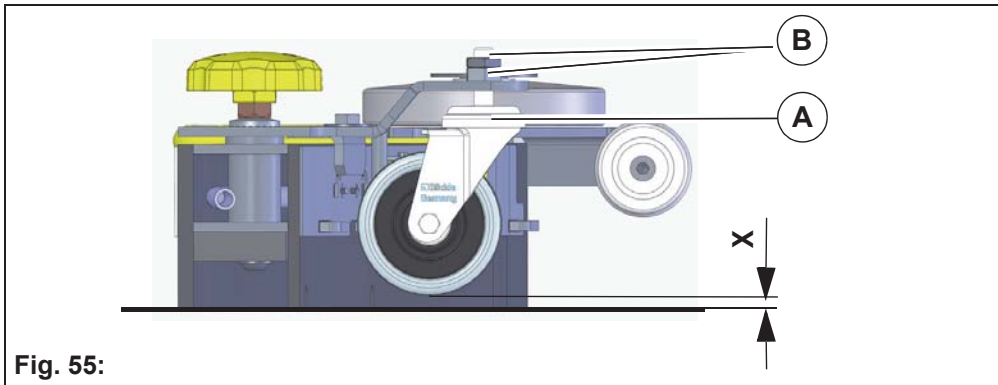

Fig. 55:
The height adjustment (X) of the supporting rollers **Fig. 55-A** has been set to 7 mm in the factory. If striping still occurs despite optimum inclination adjustment, readjust the distance between the supporting rollers and the lower edge of the sealing strip.
3. Loosen nuts **Fig. 55-B** and adjust distance between supporting roller and ground as per the table.